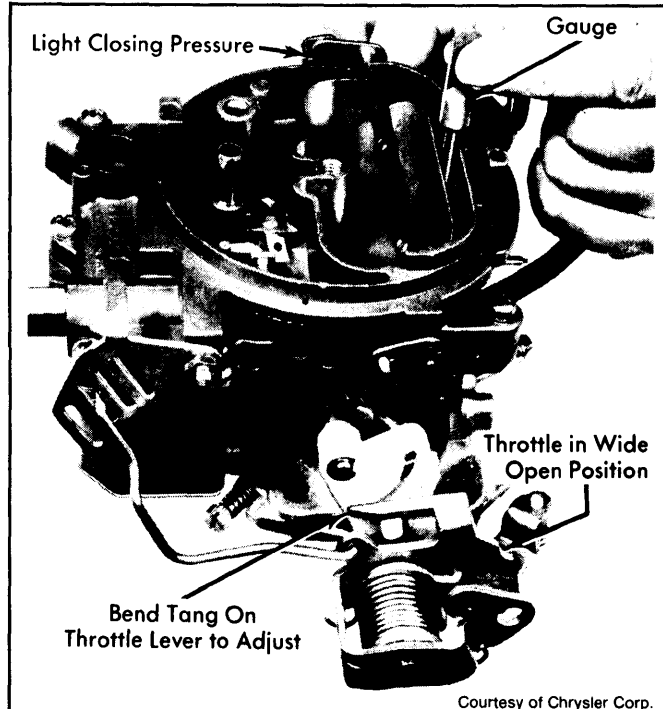

Fig. 6: Adjusting Choke Unloader
- 1) Hold throttle valves in wide open position. Hold choke valve toward closed choke position by applying light closing pressure to choke lever. See Fig. 6.